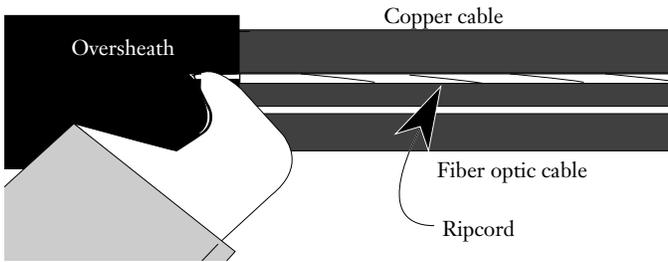

Figure 6
5.8 Using the hook blade, cut a starting notch in the oversheath for the rip cord between the two inner cables (Figure 6).